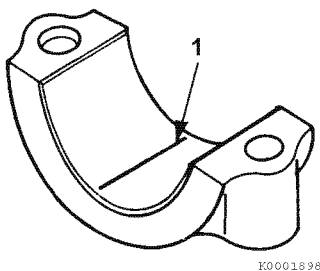

Figure 6-44
- 3- Place a piece of PLASTIGAGE® (1, **Figure 6-44**) along the full width of the bearing insert.